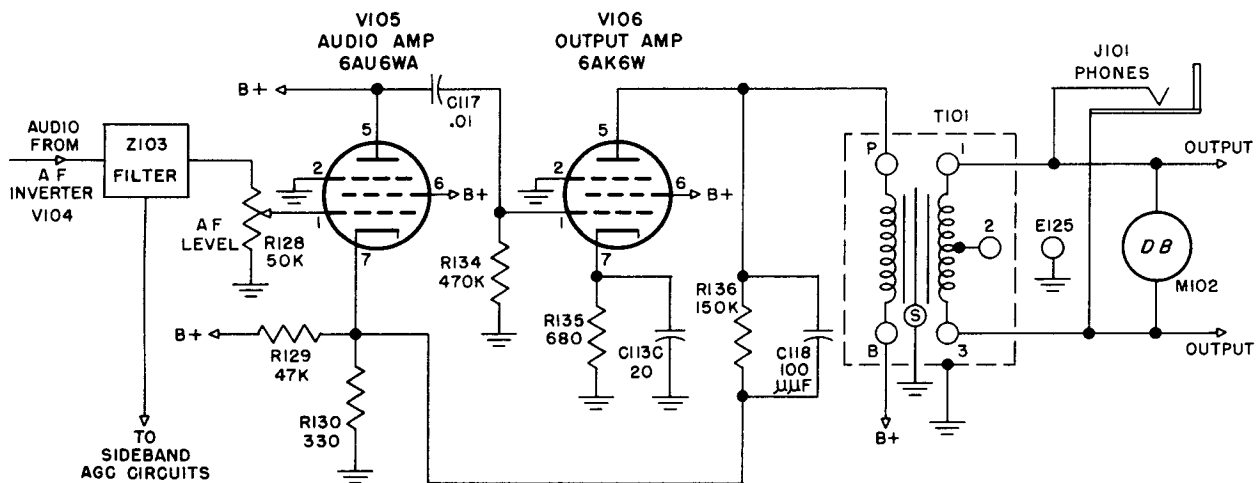

Figure 2-5. Audio Amplifier and Output Circuits, Simplified Schematic Diagram
c. AUDIO FREQUENCY AMPLIFIER CIRCUIT. (See Figure 2-5.)—Audio amplifier V105 is a 6AU6WA pentode. This stage amplifies the audio signal derived from the output of filter Z103. These two elements are coupled by AF Level control R128, a front-panel mounted control which adjusts the amplitude or the volume of the audio at the output of the converter. V105 drives final amplifier V106, a 6AK6W